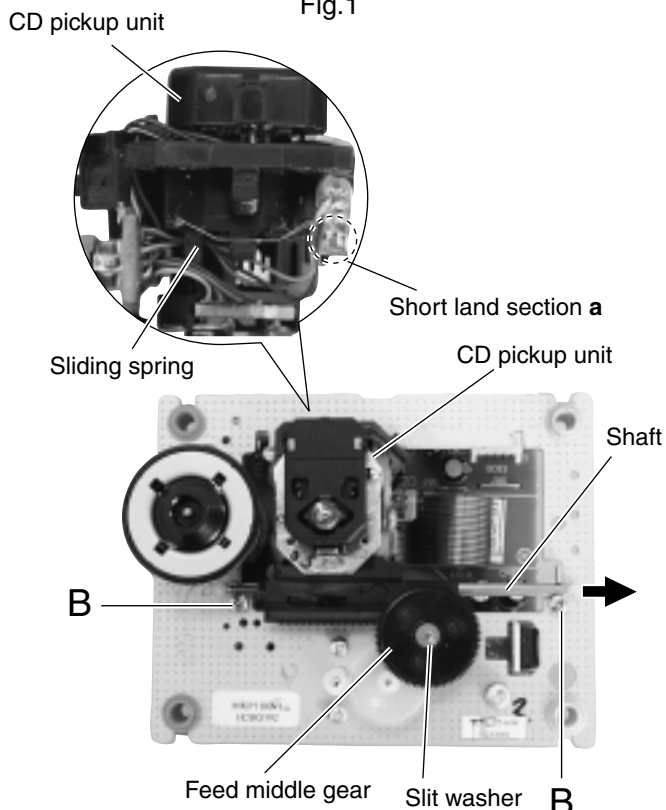

Fig.2
2. Remove the slit washer retaining the feed middle gear and take out the feed middle gear. (See Fig.2.)
3. Loosen the two screws **B** retaining the shaft and pull out the shaft in the direction of the arrow. (See Fig.2.)
(See Fig.2.)
[Caution] • Be sure to apply the solder in order to the short land section a on the CD pickup unit before removing the flexible wire from the CD pickup unit. (See Fig.2.)
[Note] • In the assembly, be sure to attach the sliding spring in the correct orientation before attaching the CD pickup unit. (See Fig.2.)